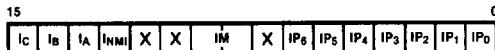

Figure 9. Interrupt Status Register
**Clock Scaling (CS).** This 2-bit field specifies the scaling of the CPU clock for all bus transactions (00 = one bus clock cycle is equal to two internal processor clock cycles, 01 = bus clock cycle is equal to the internal processor clock cycle, 10 = one bus clock cycle is equal to four internal processor clock cycles, 11 = reserved). This field cannot be modified by software.
**Low Memory Wait Insertion (LM).** This 2-bit field specifies the number of automatic wait states (00 = none, 01 = one, 10 = two, 11 = three) for the CPU to insert in memory transactions when the MMU is disabled or when the MMU is enabled and there is a 0 in bit 15 of the selected Page Descriptor register.
**Multiprocessor Configuration Enable (MP).** This 1-bit field enables the multiprocessor mode of operation (0 = disabled, 1 = enabled). (See the Multiprocessor Mode section.)
**Bootstrap Mode Enable (BS).** This 1-bit field enables the bootstrap mode of operation (0 = disabled, 1 = enabled). (See the UART section for details about bootstrap mode.)
**Interrupt Status Register.** This 16-bit register (Figure 9) indicates which interrupt mode is in effect and which interrupt sources have interrupt requests pending. It also contains the bits that specify whether the interrupt inputs are to be vectored. Only the interrupt vector enable bits are writeable; all other bits are read-only.